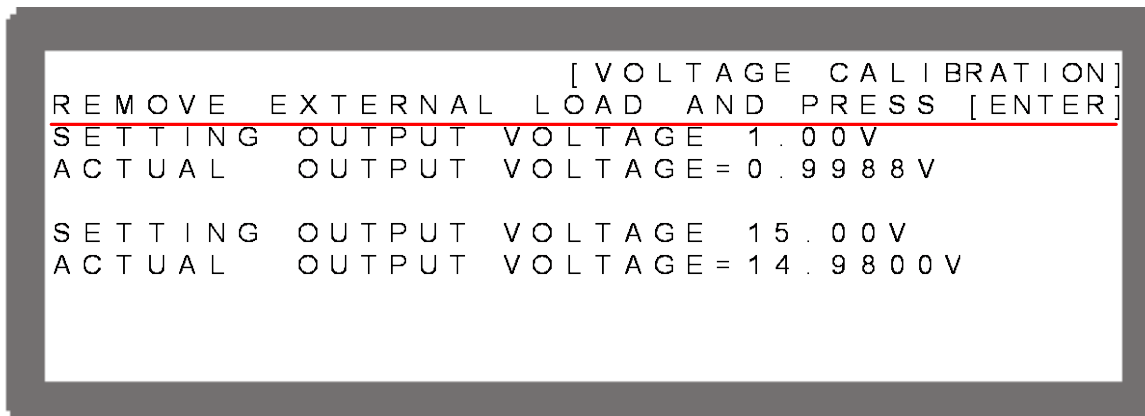

Figure 3-99
- 3. Press “” to confirm entering into voltage calibration options as Figure 3-99 shows.